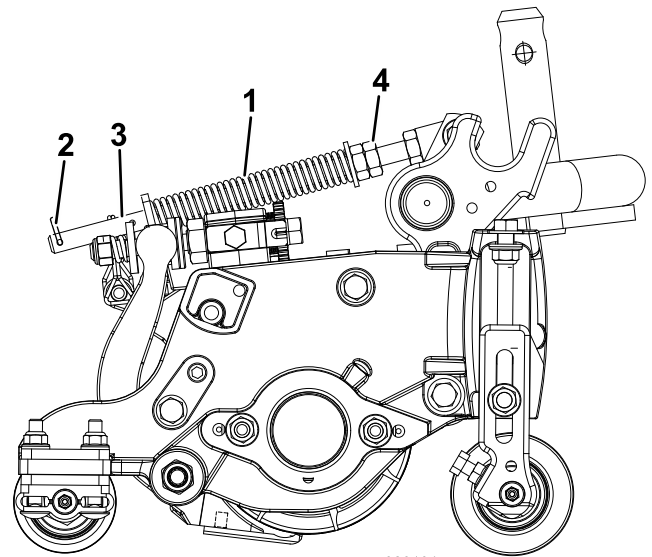

Figure 14
The turf compensation spring (Figure 14) transfers weight from the front to the rear roller. This helps to reduce a wave pattern in the turf, also known as marcelling or bobbing.
- Make sure that the hairpin cotter is installed in the rear hole in the spring rod (Figure 14).
- Tighten the hex nuts on the front end of the spring rod until the compressed length of the spring (Figure 14) is 12.7 cm (5 inches) for 5-inch cutting units and 15.8 cm (6-1/4 inches) for 7-inch cutting units.